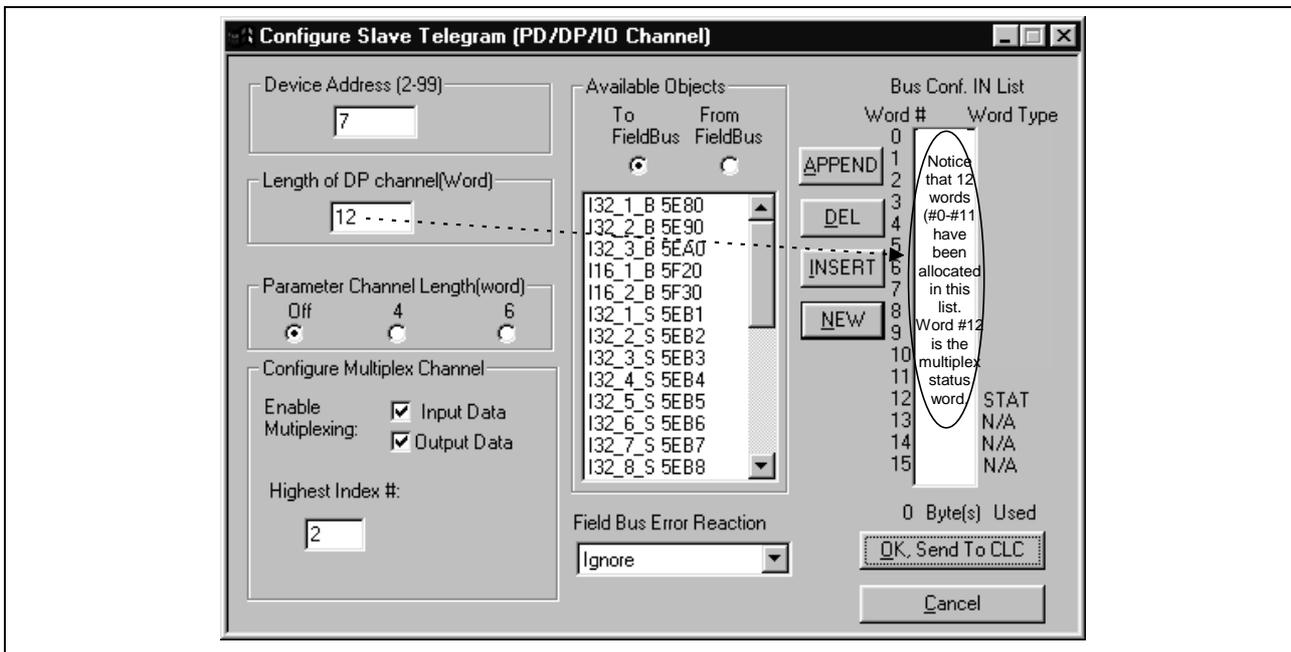

Figure 2-13: Profibus Configuration Screen
- Click the button labeled "Define/Config Slave Objects." The Fieldbus Mapper will try to detect any configuration data from the CLC-D. If you are configuring a new list, click on the "NEW" button to clear any current data in the selected list. The Profibus Configuration Screen is pictured in **Figure 2-13: Profibus Configuration Screen**.